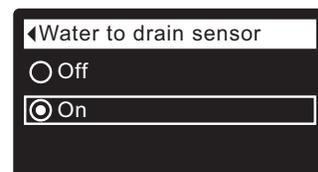

FIG. 74
If the desired option already has a dot next to it (See Figure 74), go to Step 9. Otherwise, press the DOWN (▼) or UP (▲) buttons to scroll to the other option, then press SELECT (O) to choose it.